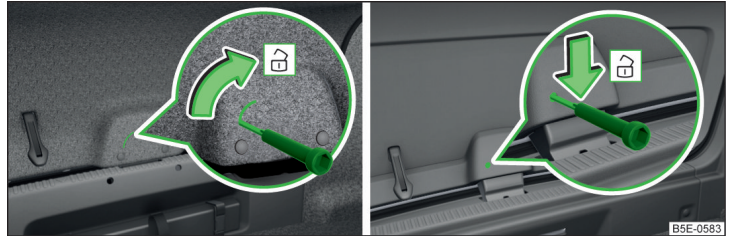

Fig. 344 Unlatch lid: Version 1/version 2
- › Insert a screwdriver or similar tool into the recess or the opening in the trim » Fig. 344 as far as the stop.